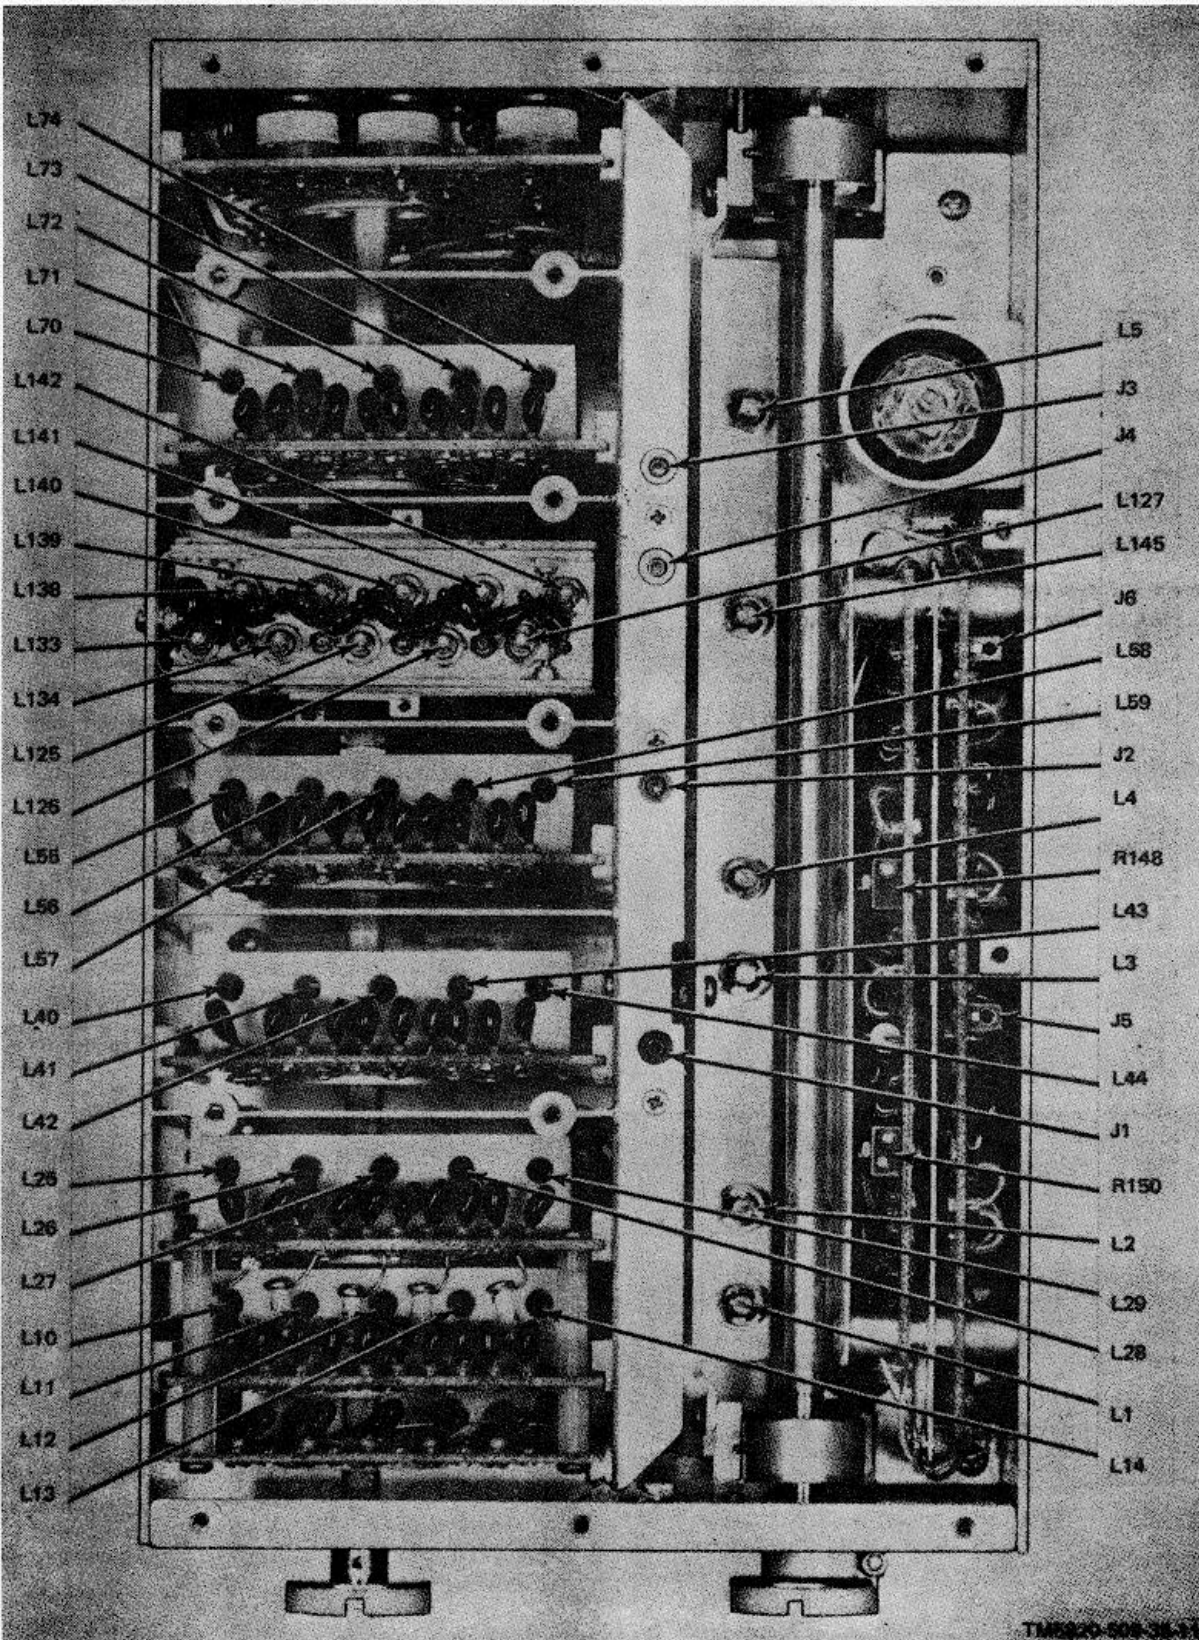

Figure 3-96. Signal Data Translator CV-1377A-PRC-47(A8A3), Top View, Location of Test Points and Adjustments.
a. *Test Procedures.* Measure the clearance between halves of the slug rack coupler (fig. 3-96) with a feeler gage. Clearance must be 0.002- to 0.020-inches. If not, adjust in accordance with step b.
(1) Remove the RT-671/PRC-47 from its case using the procedures detailed in paragraph 3-11.
(2) Connect the primary power source to the POWER connector on the front panel of RT-671 //PRC-47.